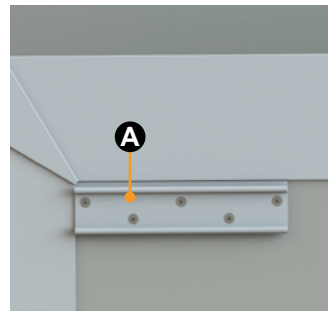
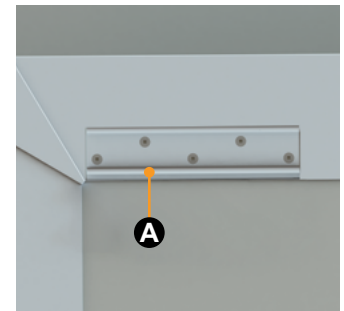

Fig.9
Fig.10
2. Install the access plate below the T-molding (Fig.9) or on the T-molding (Fig.10).